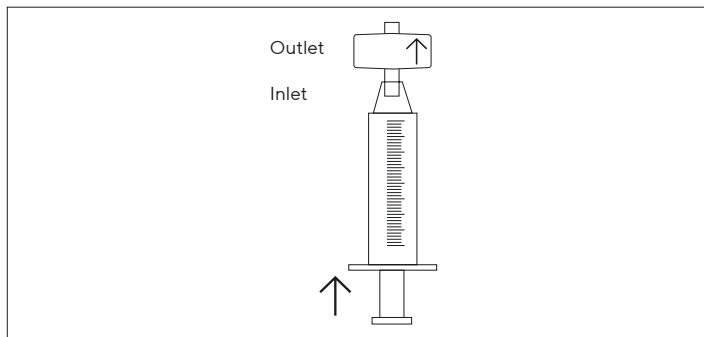

Fig. 3: Filling the Sartobind Convec® SC and D Nano with a Luer syringe for air removal
- ▶ Fill a 10–20 mL Luer syringe with equilibration buffer and connect to the capsule. Hold capsule upright (outlet is up) and expel air as shown in Fig. 3.